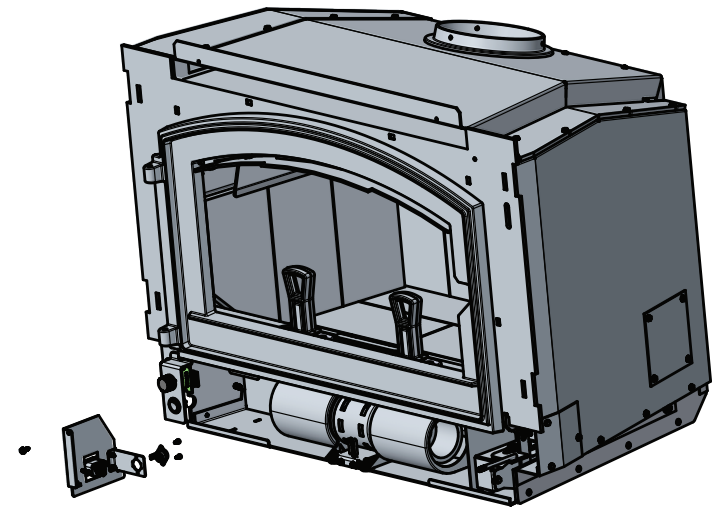

Figure 23.3
4. Locate the snap disc bracket assembly behind the blower controls on the left side under the ash lip (**Figure 23.3**).